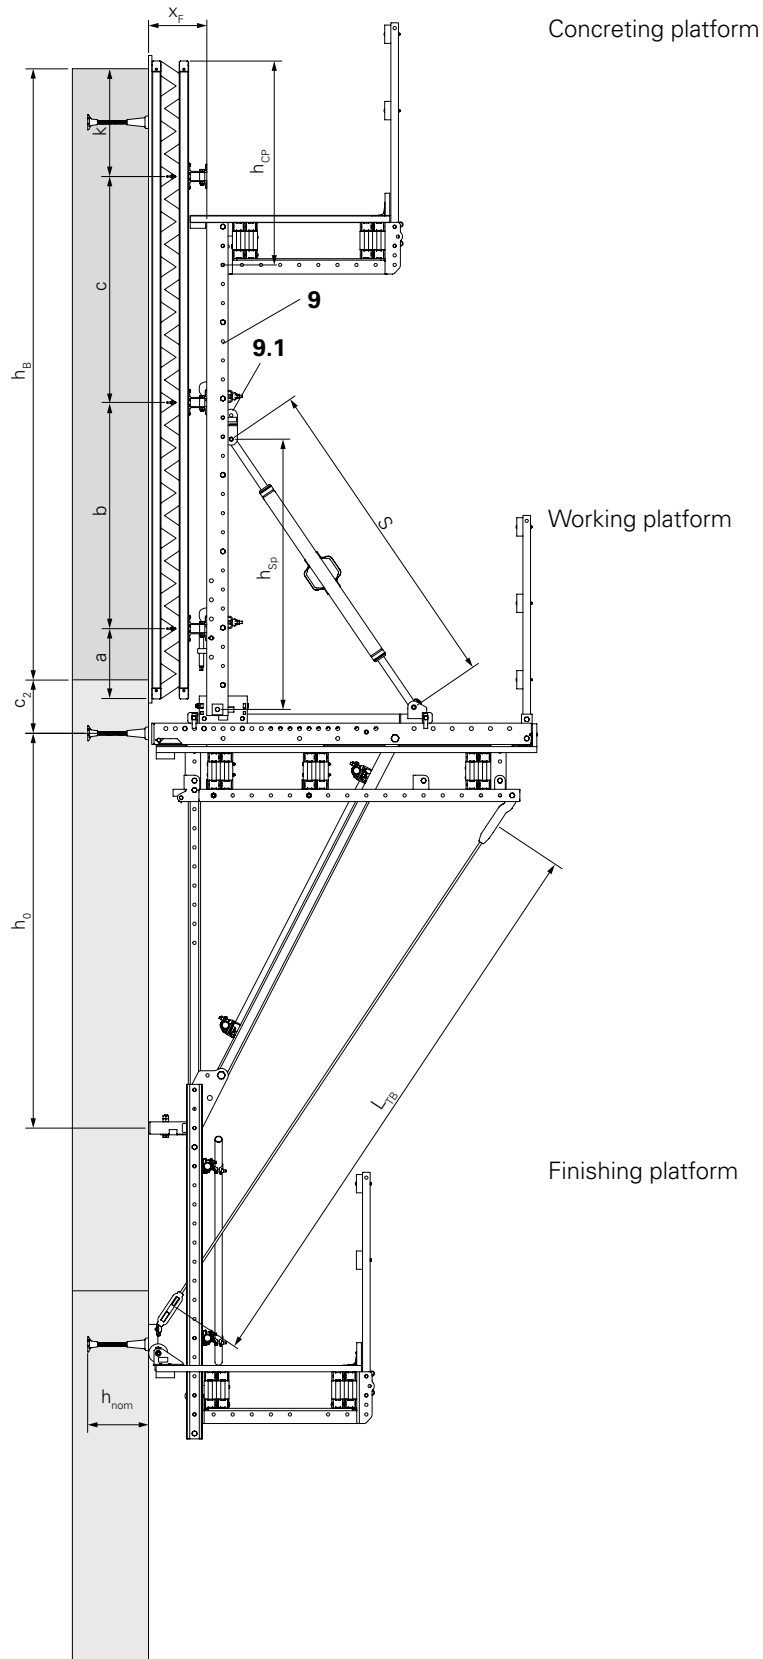

Fig. A2.01
These dimensions are decisive for the bending load of the strongback (9). (Fig. A2.01)